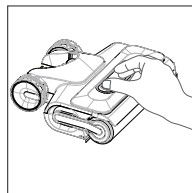

Fig. 12 – Removing the cover
- ▶ Remove the cover of the microfibre roller by pressing the two release buttons on the top together and pulling the cover upwards (see Fig. 12).